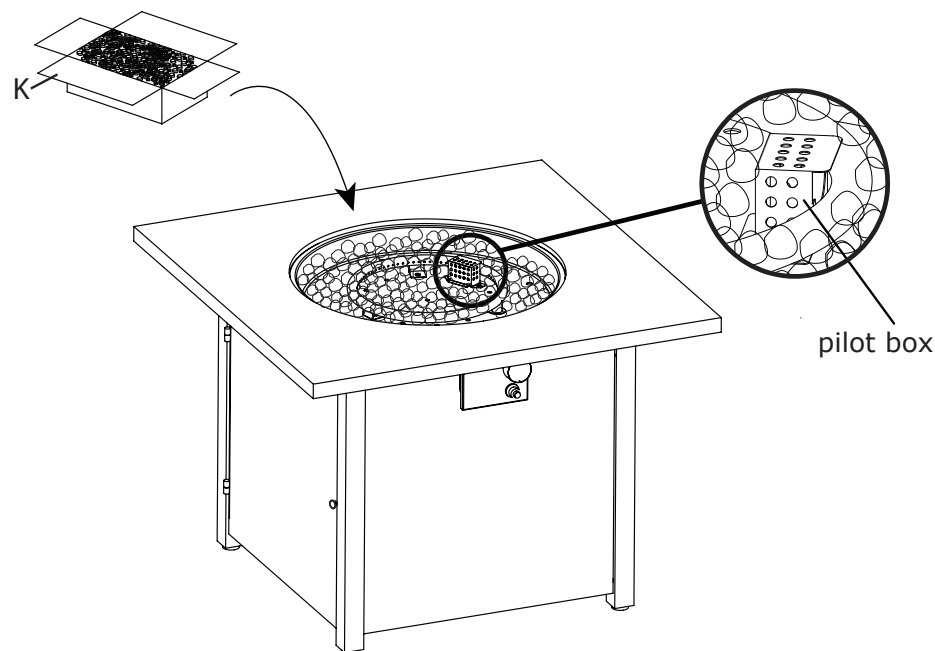

Figure 9
9. Open the box of lava rocks, put the lava rocks (K) into the fire bowl of the fire table, (see Figure 9). A gas fire pit requires 13.2 lbs lava rocks.